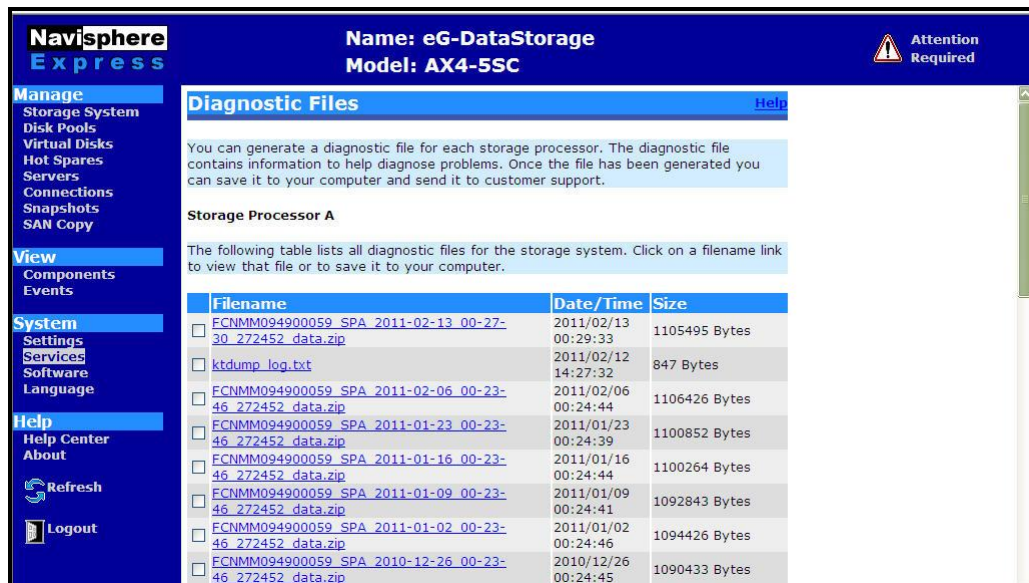
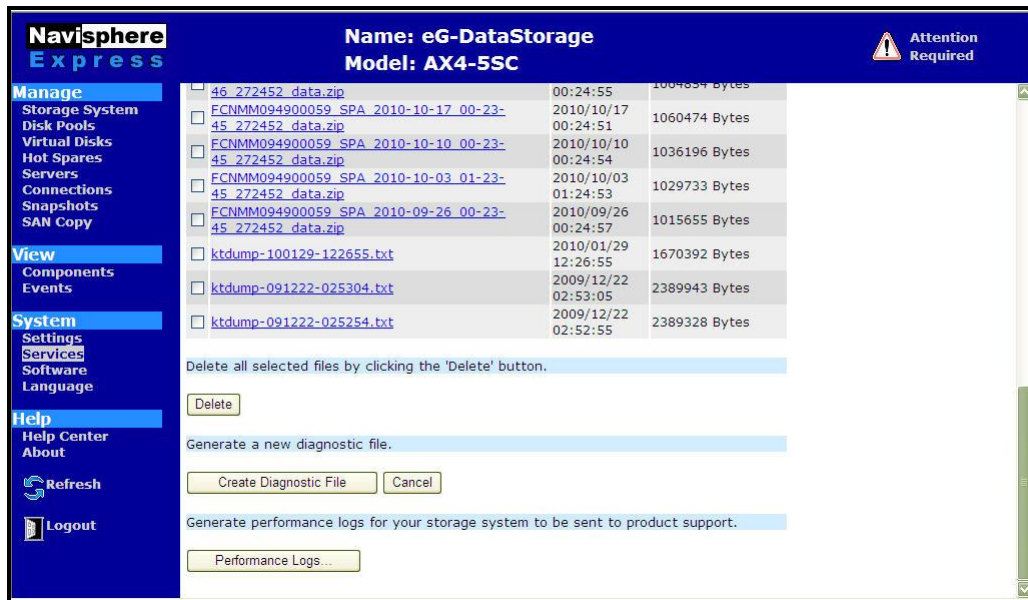

Figure 1.6: The Diagnostic Files page
Figure 1.7: Scrolling down the Diagnostic Files pages to view the Performance Logs button
- When the **Diagnostic Files** page appears (see Figure 1.6), scroll down the page to view the **Performance Logs** button (see Figure 1.7). Click on this button.